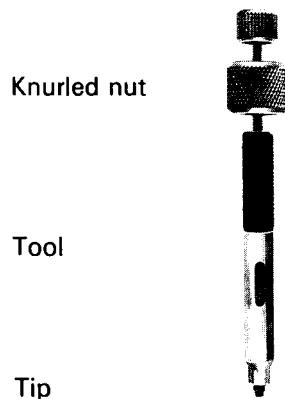

Fig. 20
- By pulling out the cam with the ROLEX tool Ref. 2004 (Fig. 20) to increase the endshake.